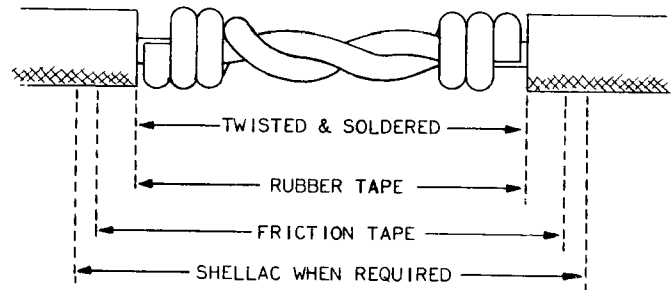

FIG. 6 STRAIGHT SPLICING - SOLDERED
shown in Figure 6. Determine that the entire splice takes the solder. The size of wire will determine the length of the splice. When drawings indicate a solder splice or job information calls for a soldered splice, the Western Union splice is preferred over the pig-tail splice especially when appearance is a factor or when the splice may be subjected to strain.
6.42 Apply tape within the dimensions shown in Figure 6 and as described in Paragraph 6.15.